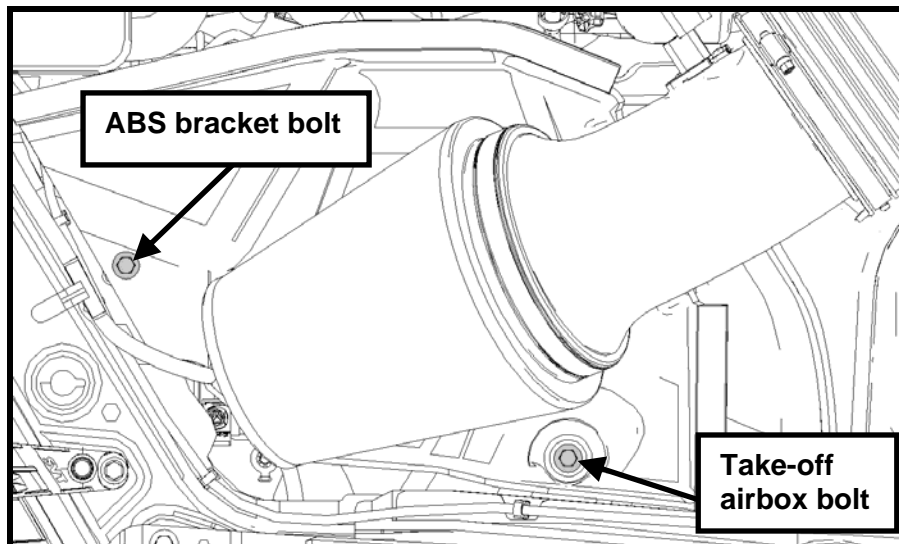

Fig. 35
**STEP 19:** Lower the complete airbox assembly into the vehicle using the two pegs as guides into the rubber grommets. Use the take-off airbox bolt and newly supplied ABS bracket bolt (N808920) to secure the airbox in the vehicle. Torque the M6 bolt to 10 Nm, (88 lb in) and the M8 bolt to 25 Nm (221 lb in) (See Fig. 35).